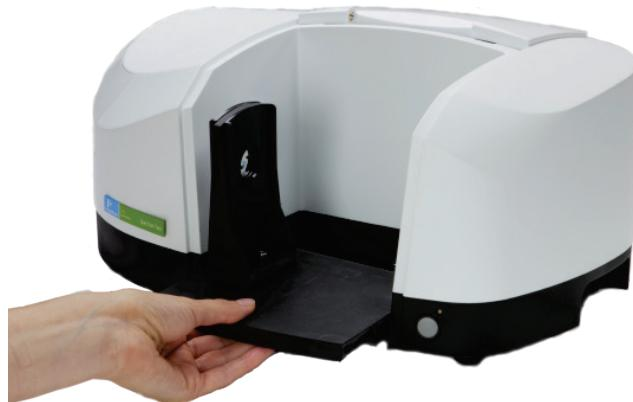

Figure 2 Removing the standard baseplate
2. Pull the baseplate of the current sample accessory towards you, and slide the accessory out of the sample area (see Figure 2).